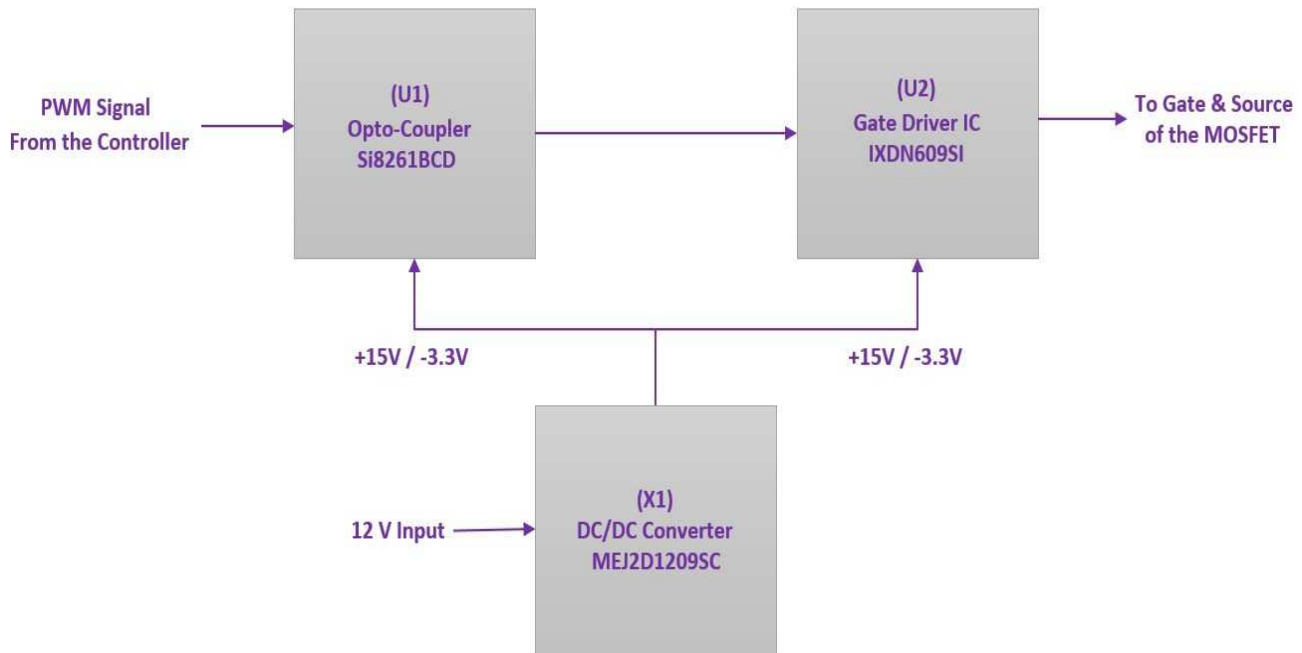

Figure 4: Block diagram of CGD15SG00D2
The block diagram of the CGD15SG00D2 gate driver board for Wolfspeed’s generation 3 SiC MOSFET is illustrated in Figure 4. It consists of an opto-coupler (U1), a gate driver integrated circuit (U2) and an isolated power supply (X1). The opto-coupler (U1) from Silicon Laboratories Inc. (P/N: Si826BCD) gets an input of pulse width modulation (PWM) signals and provides a high common mode immunity (35KV/us minimum, 50 KV/us Typical). A filtering capacitor across the opto-coupler input has been provided.
Signal from the output of opto-coupler goes into an IXYS Corporation driver integrated circuit (IC) (U2) (P/N: IXDN609SI) as shown in Figure 4. U2 provides up to 9A of output current with a typical output resistance of 0.8 Ω.